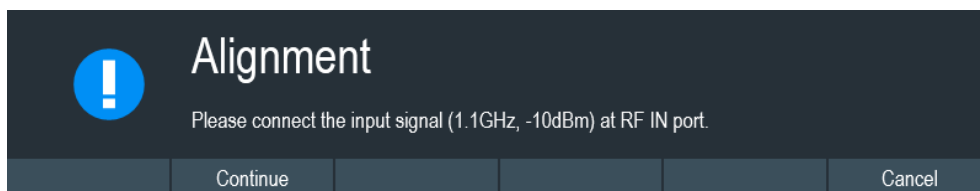

Figure 4-3: Input signal for frequency clock alignment
3. Select "Yes" to overwrite existing default alignment data and proceed to perform alignment. The R&S Cable Rider ZPH displays the "Alignment" dialog. Depending on the selected alignment item, different input signal is required. See Figure 4-3 and Figure 4-4.